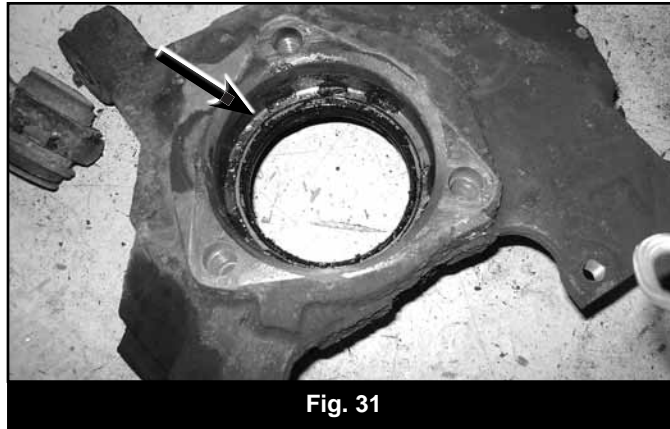

Fig. 31
55. Carefully remove the large seal from the backside of the knuckle, if equipped (Fig 31). This can be done carefully using a hammer and large punch. Install the seal into the new supplied steering knuckles (02120, 02121). Install the factory hub assemblies into the new knuckles and fasten with the stock bolts. Use Loctite on the bolt threads and torque to 125 ft-lbs. Note: The factory dust shield will not be reused.